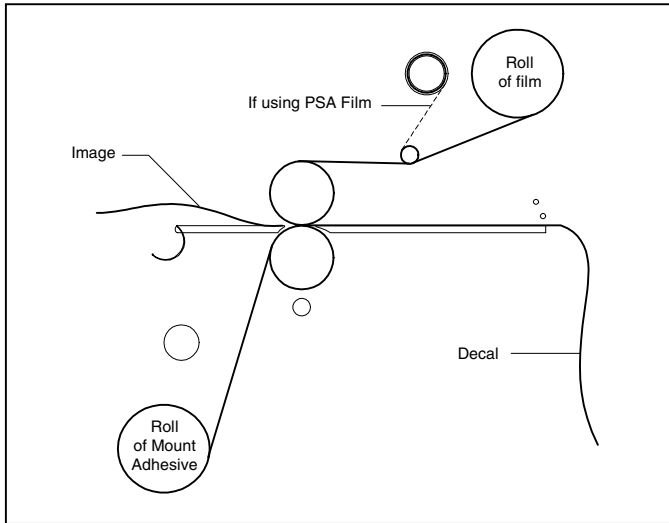

Fig. 34
#### TIPS FOR CREATING A DECAL (Figure 34)
1. Load the laminator as illustrated in Figure 34.